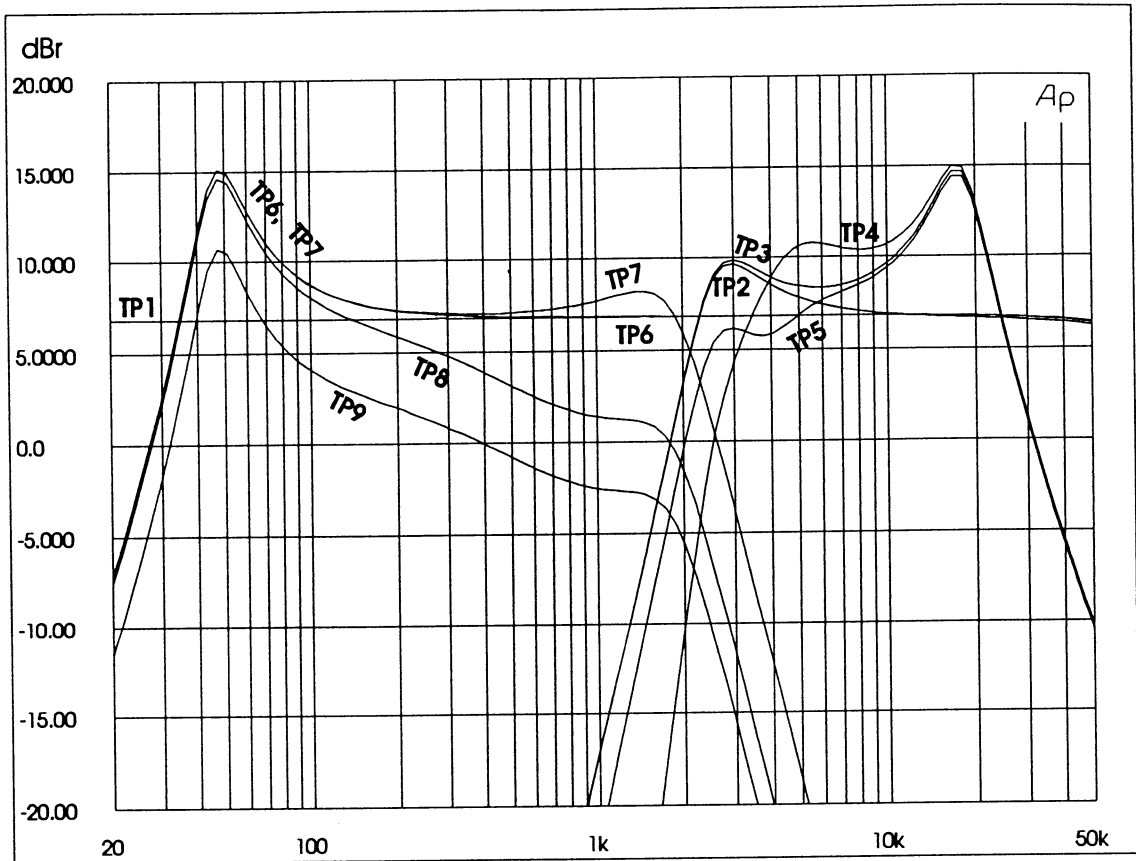
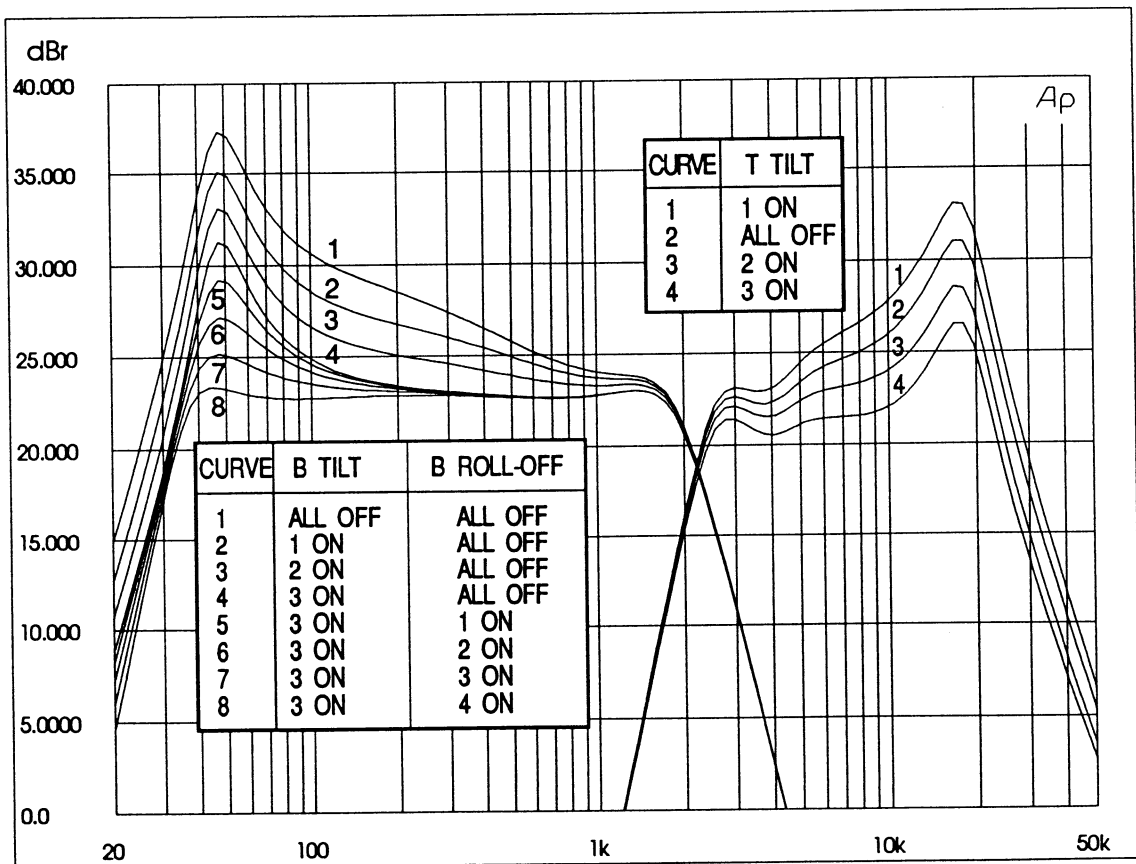
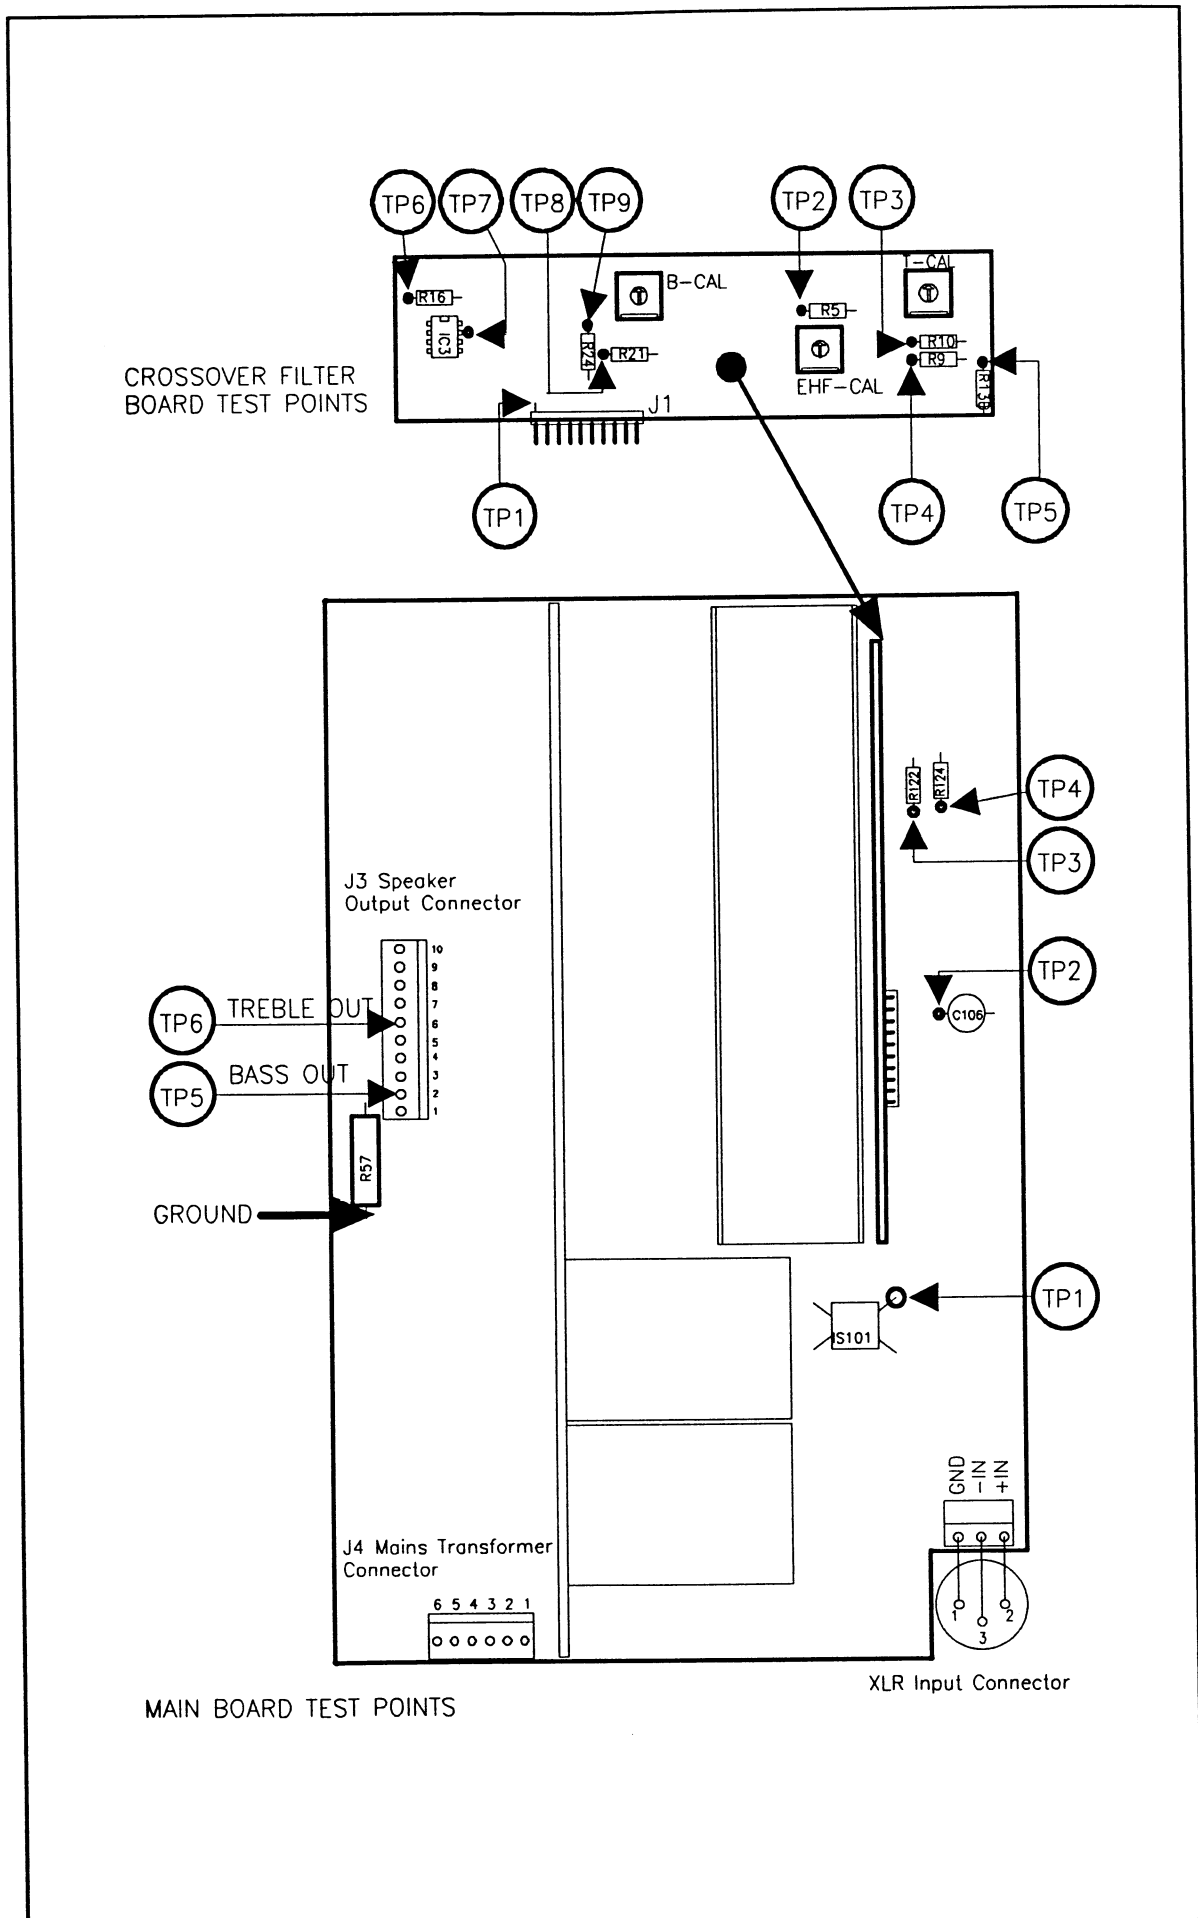

Figure 4.2 Crossover filter response curves
Figure 4.3 Total voltage gain curves and the effect of the crossover controls
Figure 4.4 The location of test points
Troubleshooting information on the 1031A Monitoring System incorporates voltage level values and notes included as part of the circuit diagrams and level diagrams. The curves in figure 4.2 show the frequency responses of crossover filter channels. The vertical scale shows directly the AC voltage gain of bass and treble channels, measured between the XLR-input connector and the test points on the crossover filter board.
Figure 4.3 shows the total voltage gain between XLR input connector and speaker output connector J3 for bass and treble channels. The location of test points is shown in Figure 4.4.
~~Note that the total voltage gain values shown in Figure 4.3 depend on the sensitivity of the driver elements, because the channel gain calibrating trimmers TR1, TR2 and TR3 affect the gain and they are set for flat acoustic response. However, the variation should not be more than a few decibels from the values presented.~~
- Measure the AC voltage levels at crossover filter test points TP6 ... TP9 (see Figure 4.4) at different bass frequencies between 20 Hz and 3 kHz and compare the results to the values read from the response curves in figure 4.2. If a dB scaled AC voltage meter is available the gain values can be read directly from meter scale after referencing the meter to input level of 100 mV RMS. Otherwise a simple calculation is needed (gain in dB = $20 \times \log U_{\text{meas}}/0.1V$).
- Measure the AC voltage levels at the test points TP2 ... TP5 at different treble frequencies between 1 kHz and 20 kHz and compare the results to the values read from the response curves in figure 4.2.
- Repeat steps above but use the main board test points TP5 (pin 2, bass out) and TP6 (pin 4, treble out) at power amplifier output connector J3. Compare the results to the values read from the response curves in figure 4.3. Be sure that no load is connected to the speaker connector during measurement. Because of negative output impedance used in bass amplifier output, the voltage gain depends on the load impedance.
- Measure the voltage level at the bass power amplifier output (test point TP5 in figure 4.4) with an oscilloscope or RMS voltage meter. Slowly increase the generator output level and see that the power amplifier output level increases accordingly up to 15 V RMS. This corresponds a generator level of 1 V (RMS). Raise the generator level to 2 V (RMS), which corresponds the clipping level of bass power amplifier, and note that the output level does not exceed 15.5 V (RMS).
- Measure the voltage level at the treble power amplifier output (test point TP6 in figure 4.4) with an oscilloscope or RMS voltage meter. Slowly increase the generator output level and see that the power amplifier output level increases accordingly up to 4.5 V RMS. This corresponds a generator level of 230 mV (RMS). Raise the generator level to 1.5 V (RMS), which corresponds the clipping level of treble power amplifier, and note that the output level does not exceed 5 V (RMS).